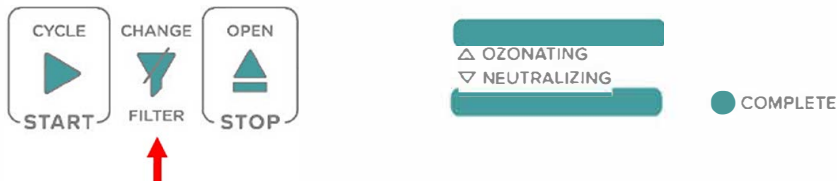

Figure 21 Change filter button location on control panel
4. Press and hold the FILTER button for 5 seconds until the filter light turns off (Figure 21). This operation can only be done when the NUTROZ device is plugged in and unlocked.